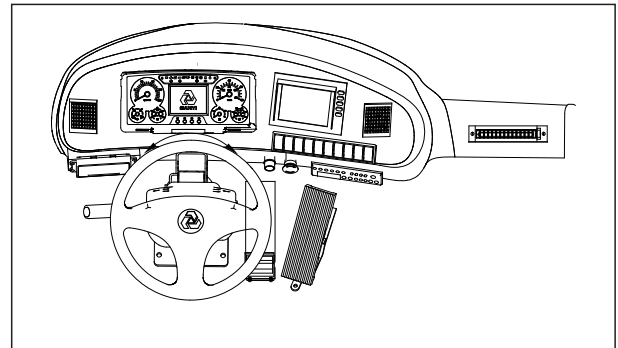

Fig 4.25
4. Turn the steering wheel in both directions to dissipate the pressure in the steering accumulator to prevent accidental steering during bleed down. (see Fig.4-25).